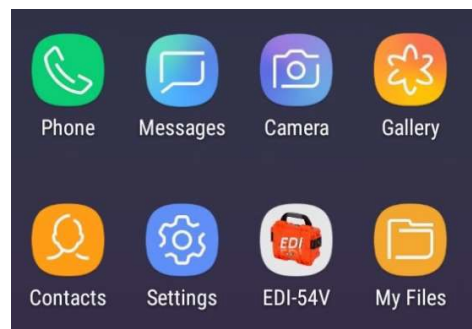

Fig 3-2: Application launcher
- After installing press DONE or application can be opened directly by pressing OPEN. User can open the application through application launcher also. See Fig 3-2.
Running VW Indicator application is very simple. It is as simple as playing games in mobile phone. The graphic user interface makes it users friendly and thus easy to operate. Go to applications and then click on Vibrating Wire Indicator application icon as shown in Fig 3-2.